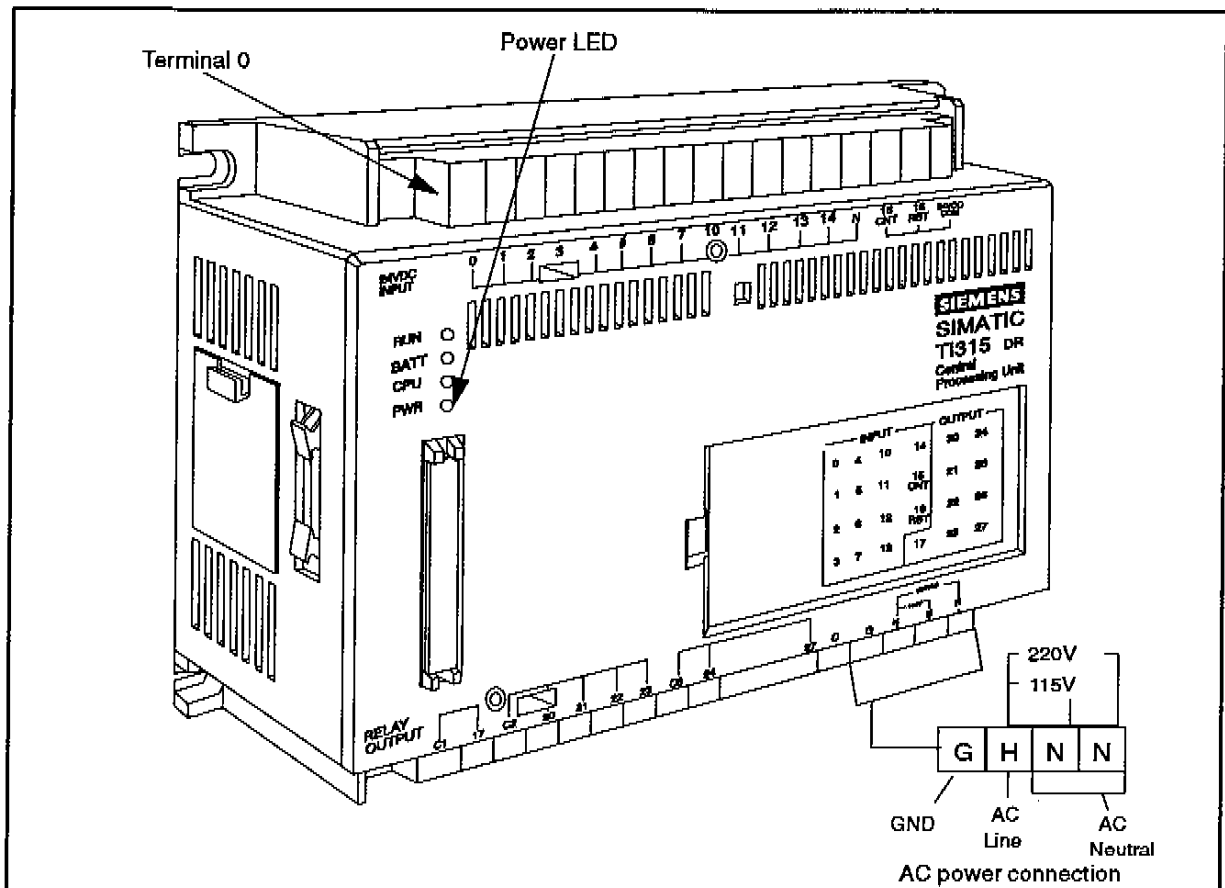

Figure 4-1 SIMATIC TI315 Controller
2. Connect unit to the AC power source. (See Figure 4-1.)
4. Turn unit power on. The PWR LED illuminates. (See Figure 4-1.)
11. To test an output and an input using a field device, connect an input device, such as a switch, to terminal 0 on the TI315 unit. (See Figure 4-1.)